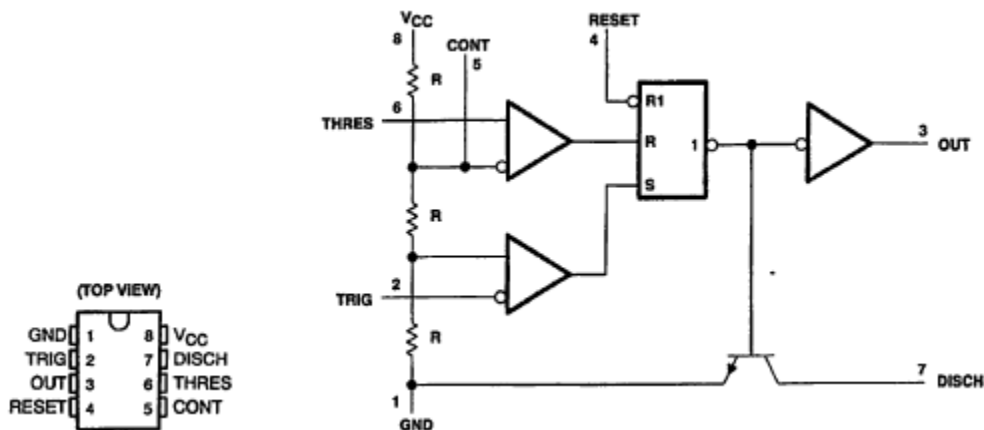
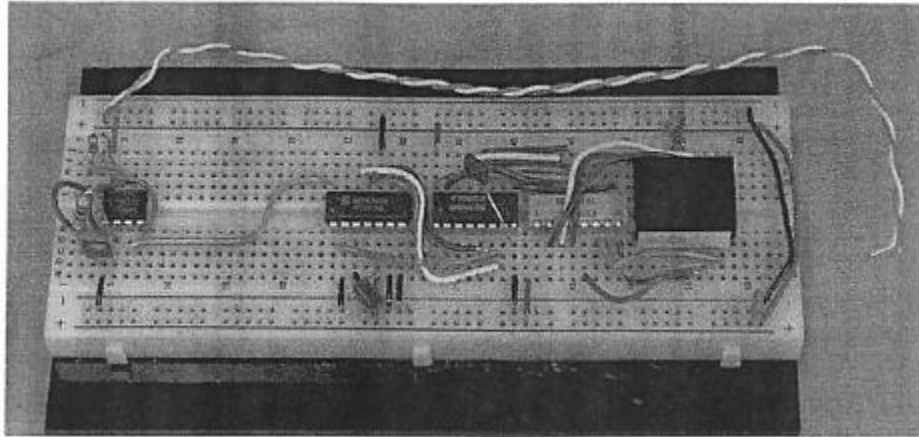

Figure 6 555 timer and schematic.
Figure 7: We will be 1 resistor on the common LED cathode instead of using a DIP resistors for all of the LED anodes.
We will use a 555 timer to be our clock, see Figure 6 for pin-out and schematic.
1. Construct the timer circuit (see Figure 7) at one end of your protoboard carefully laying out the connections and wiring for easy debugging. Figure 6 shows information from the 555 datasheet. Using the components shown in Figure 7, the output of the circuit will be a pulse train with a frequency of approximately 0.7 Hz corresponding to a period of approximately 1.4 sec (see Section 6.12.3 in the book).